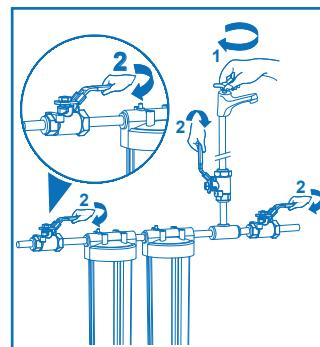
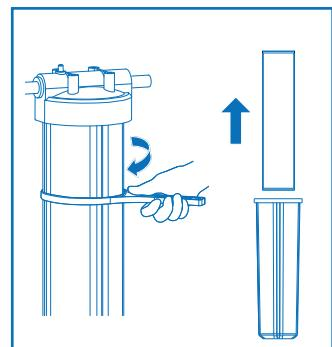

Figure 11
Figure 12
3. Close the valves necessary to isolate the UV Prefilters (Figure 10). Remove the filter cartridge closest to the UV (Figure 11). Fill the sump with 1-2 cups of household chlorine bleach (5.25%) (Figure 12).